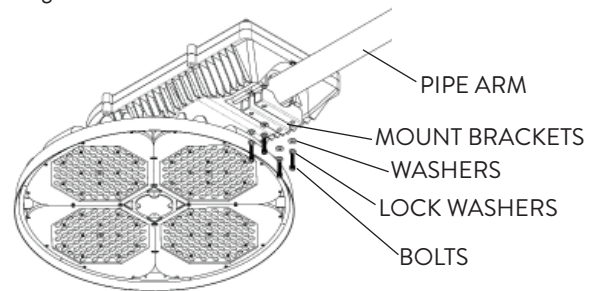

FIG. 8
- 3 With the Vertical Adjustments, set the angle, then fasten the Bolts to secure the Mount Brackets to the Pipe Arm in place to the FHMA fixture (Fig. 8).